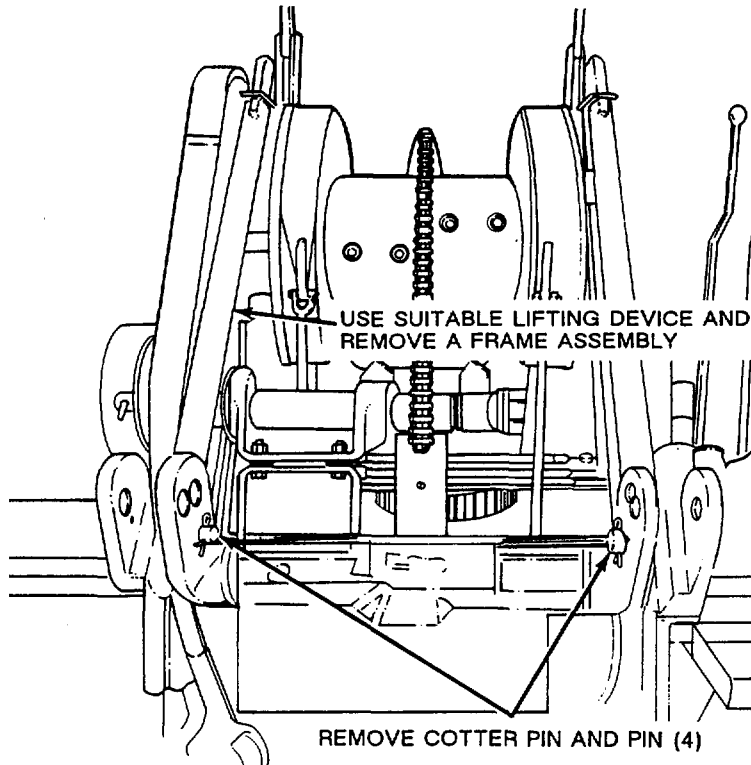

Figure 4-101.1. A frame, removal and installation.
(1) Remove the crane gantry sheave block by reversing installation procedure (para 2-2).
- (2) Remove the crane cab assembly.
- (3) Remove the A frame from the revolving frame as instructed on figure 4-101.1.
- (1) Install the A frame on the revolving frame as shown on figure 4-101.1.
- (2) Install the crane cab assembly.
- (3) Install the crane gantry sheave block (para 2-2).